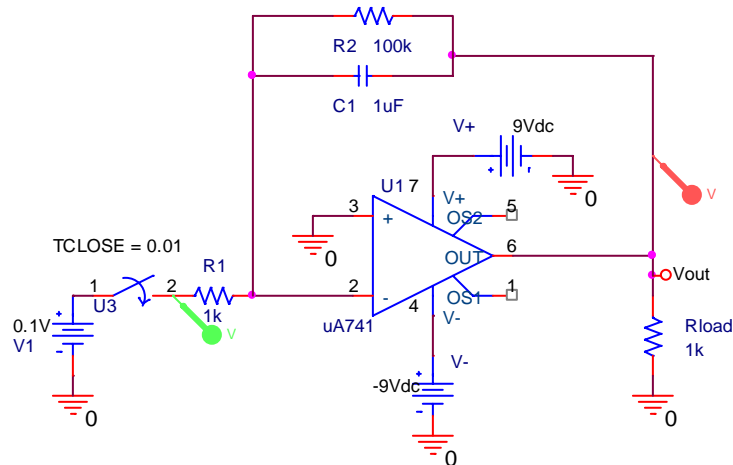

Figure C-4
- Modify your circuit by replacing the AC source with a DC source and a switch as shown in figure C-4.